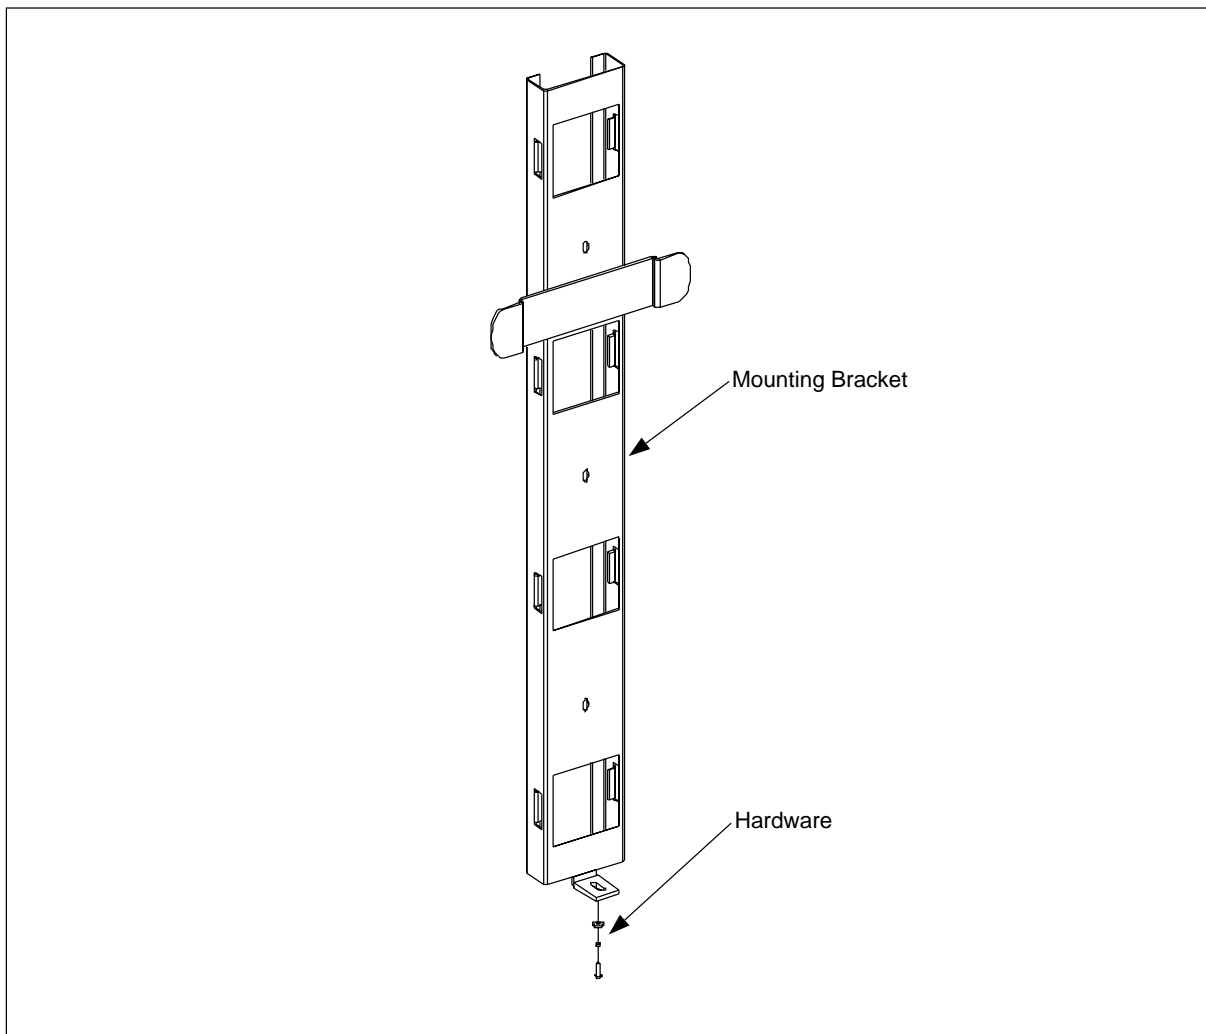

Figure 4-7. Wall-Mount Components
2. Locate the Wall Mounting Kit. See Figure 4-7 on page 4-19.